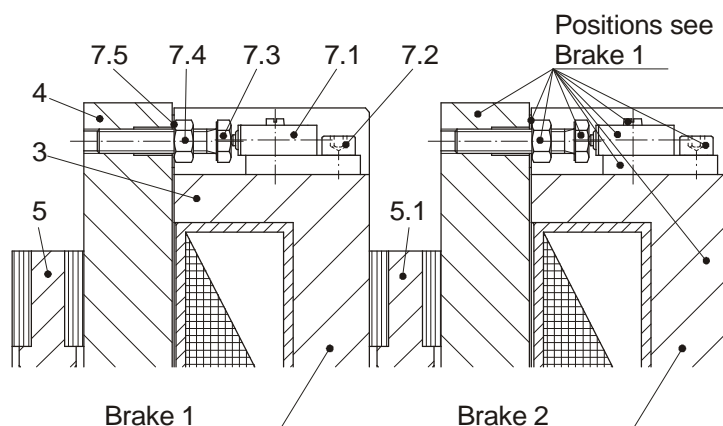

Fig. 6
Release monitoring (7) Fig. 6 (type dependently)
Assembly and adjustment per brake circuit each (at the factory Fig. 6)